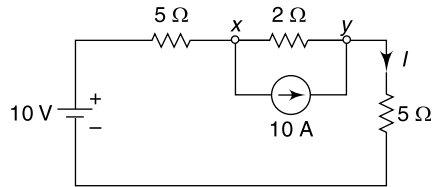

Fig. 4.72 Circuit of Ex. 4.48
4.48 Using source conversion technique find the current I in Fig. 4.72.